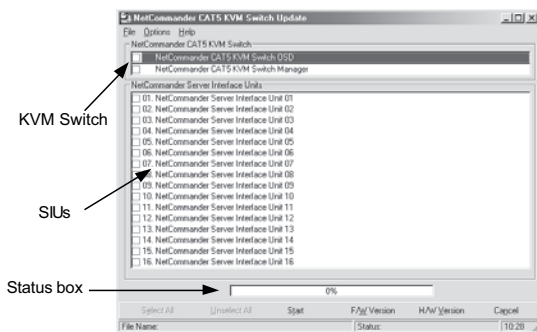

Figure 16 The KVM Switch Update window
1. Start the KVM Update software. The KVM Update window appears (see Figure 16).
2. In the Switch Unit box, check the NetCommander Cat5 KVM Switch OSD option. See Figure 16.